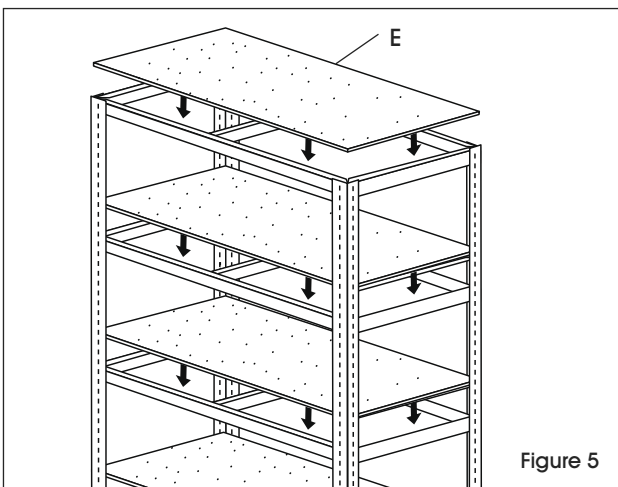

Figure 5
7. Set boards (E) on top of center supports, side supports, and front/back supports. (See Figure 5)